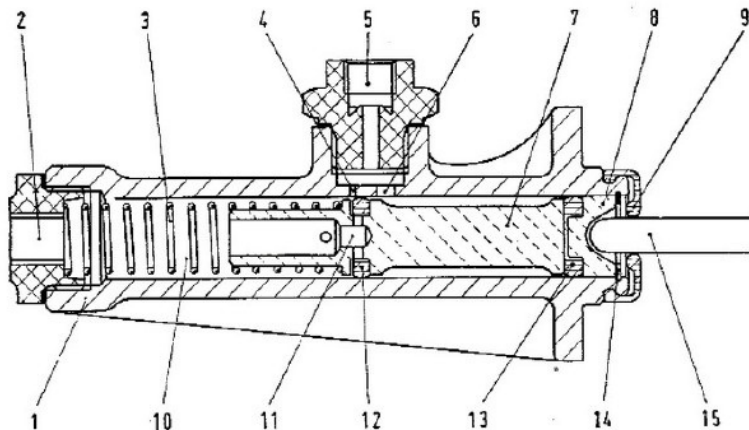

Fig. 85. - Clutch master cylinder.
Fluid flows from reservoir to master cylinder through hole (6, fig. 85) and seeps past the gap between carrier of valve (12) and body; then it flows through holes (11) of valve carrier and fills the whole circuit.
When clutch pedal is operated, the push rod (15, fig. 85) presses pistons (8) forward and, consequently, valve carrier (7); as a result, valve ring (12) exerts its pressure against the front face of valve carrier, shutting off the passage to the annular chamber of valve carrier. Continuing in its forward movement, valve ring (12) passes over compensating hole (4), and cuts off any communication with the fluid reservoir.
After releasing the pedal, the combined action of clutch release forked lever spring and of master cylinder spring (3, fig. 85), sends the fluid back to master cylinder and all parts resume their original position. Free inter-communication between system and reservoir is thus restored.